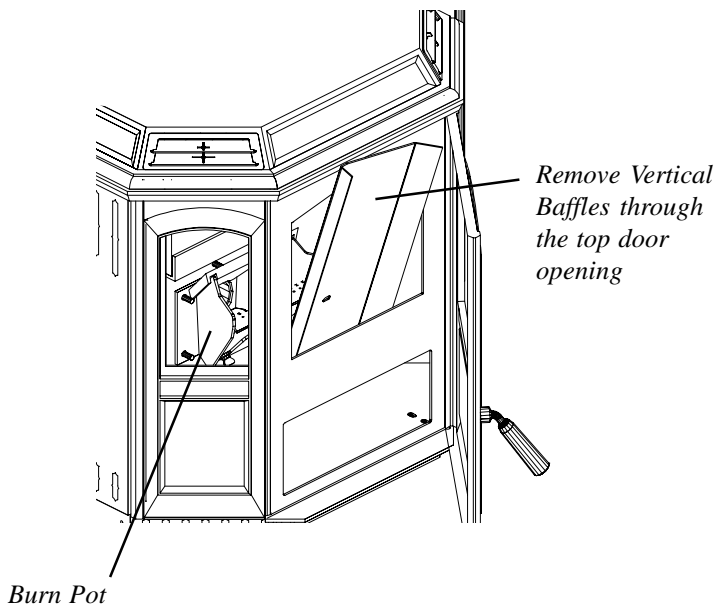
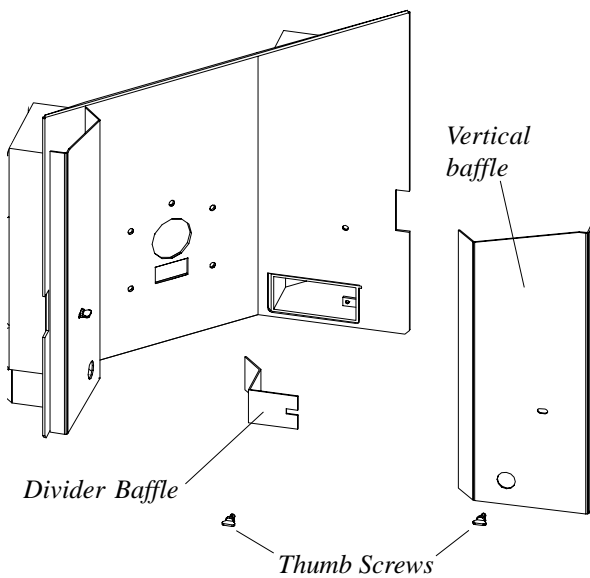

Fig. 16
Fig. 18
* Remove vertical baffles from firebox by first removing the thumb screws. Next rotate the baffles around to the front and remove through the door opening, fig. 16. This exposes the divider baffles which can be removed by first removing the thumb screws, fig. 18.